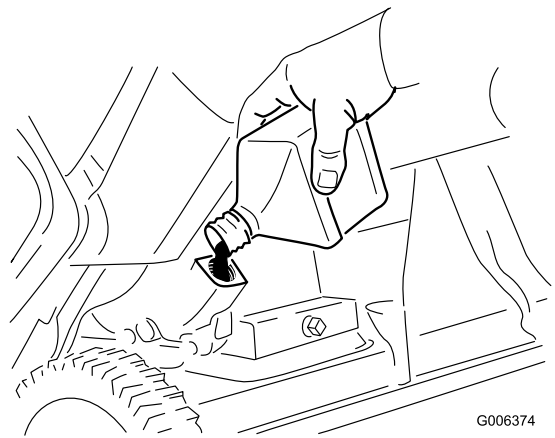

Figure 26
8. With the machine in the operating position, **carefully** pour oil into the oil-fill hole to the point of overflow (Figure 26).